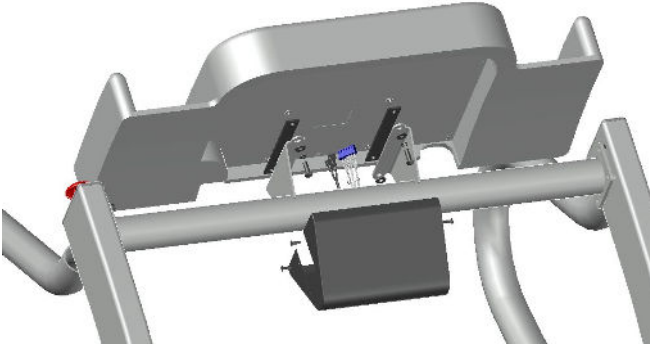

Figure 5-2
3. Figure 5-2 shows the mounting components included with the shipment of the treadmill. The kit contains:
- (4) 1/4-20 bolts